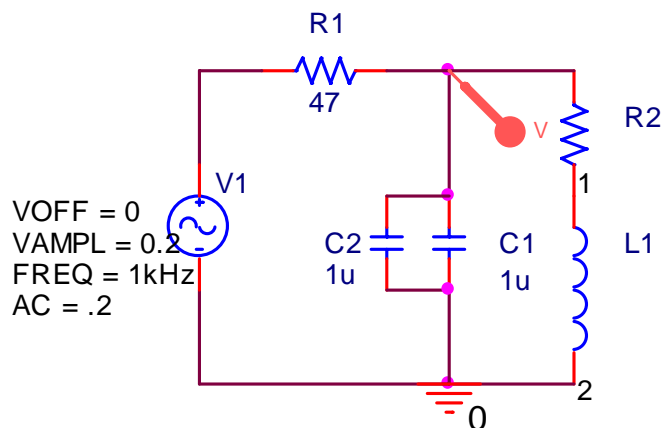

Figure B-2
- Simulate the circuit in figure B-2 in *PSpice*. This is the same circuit as the one pictured in B-1, but the inductor (because it *does not* have an insignificant internal resistance) is more accurately simulated by two components, an inductor and a resistor.